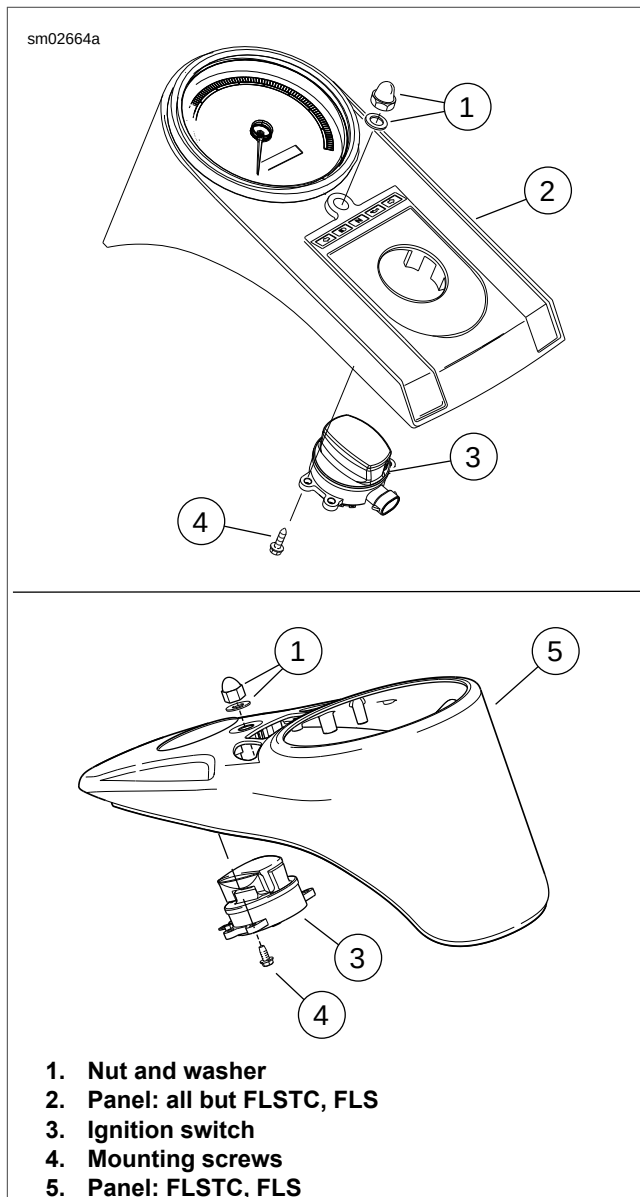

Figure 7-20. Ignition Switch: All But FXS/B
3. See Figure 7-20. Remove acorn nut and washer (1) from panel (2 or 5) and remove panel.
5. Remove mounting screws (4). Replace switch.
6. Install mounting screws (4).